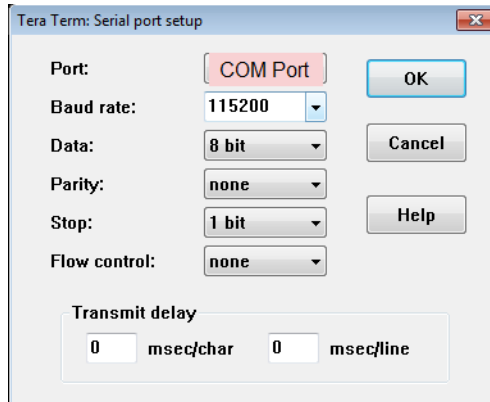

Figure 5-22: COM Port Settings for UART-1 Terminal
4. Start a terminal session, using Tera Term or Mini com, depending on the host machine being used, and the COM port and baud rate as shown in Figure 5-22.